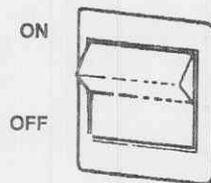

Figure 1-2. Power switch.
a. *Power switch/circuit breaker (fig 1-2).* The spring-loaded rocker switch controls the electrical power to the endoscopic instrument light. The power switch in the "ON" position illuminates itself, provides electrical power to the intensity controls, and provides electrical power to the lamp cooling fans. The power switch also functions as a circuit breaker if an electrical malfunction occurs.